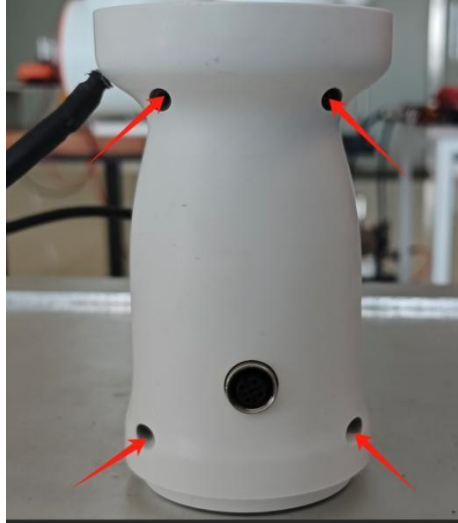

Figure 1.2 Smart Tool Screw Removal Diagram
1. First, remove the 4 screws on the outer shell, as shown in Figure 1.2, indicated by the arrows.